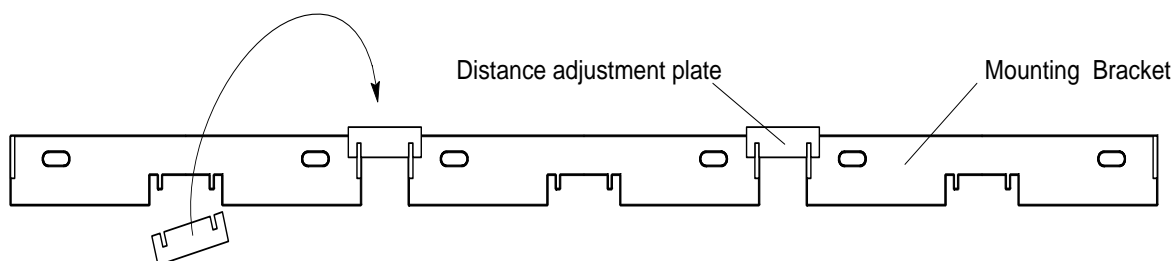

Fig. 4-6 Spacing the Mounting Brackets of the Modular Cabinets
9. Repeat this procedure for the other cabinets. The cabinets must be placed against each other, so that the shielding gasket will always have good contact with each other. For Modular Cabinets with revisions R2 and R3 the distance adjustment plate can be used (see Figure 4-6). (The space between the cabinets should never be more than .125".)